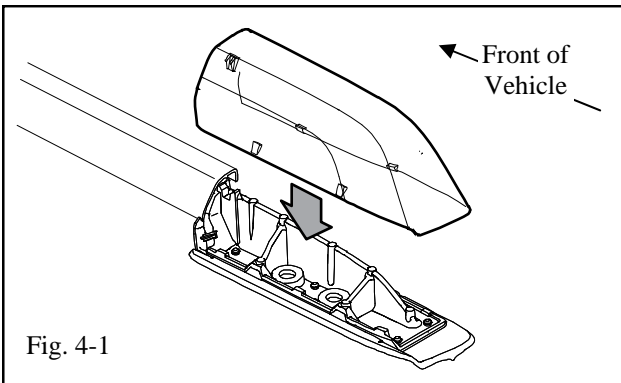

Fig. 4-1
-  (a) Align clips with slots on base rail. Press down until cover snaps into position. (Fig. 4-1)